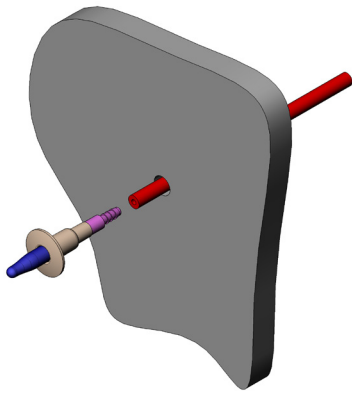

Fig 2: Tubing through wall
2. Drill a 7/16" hole where you want the pressure port mounted. Pull the pneumatic tubing through the hole and push the pressure port into the tubing until all the barbs are covered. (Figs 2 & 3)